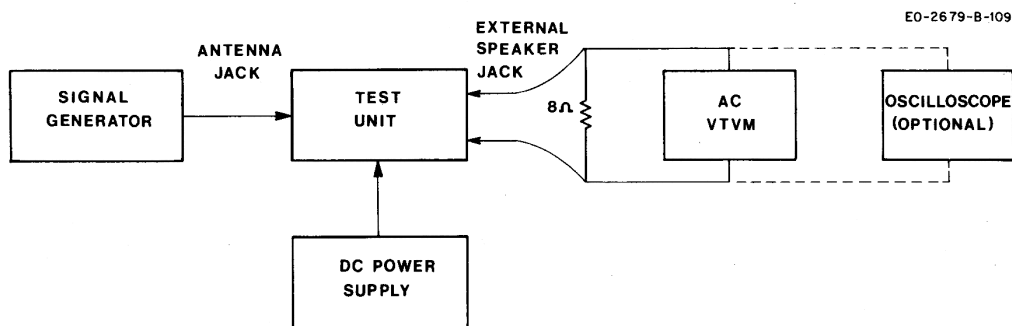

Figure 3-3
* NOTE: See Figure 3-3 for connection of the frequency counter and the dummy load.